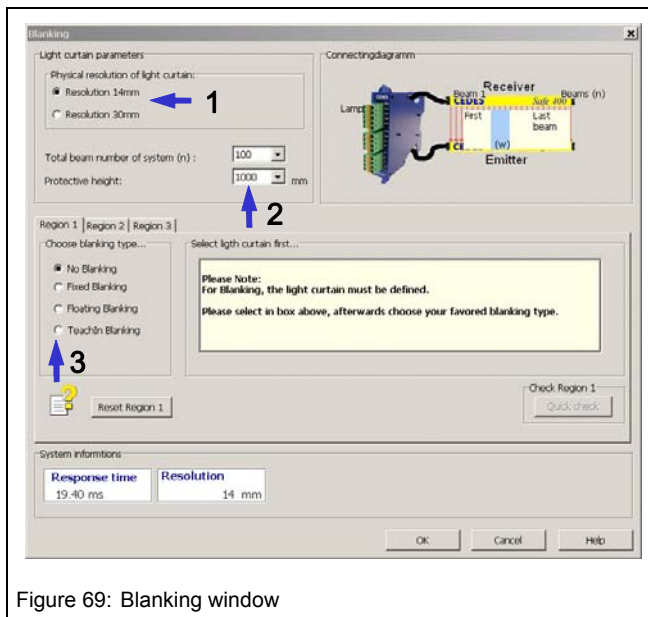

Figure 69: Blanking window
The first step requires the defining of the resolution (Figure 69 -1) and the number of beams or the protective field length of the Safe400 light curtains (2). The length of the protective field as well as the physical resolution can be found on the specification label of the light curtain being configured.